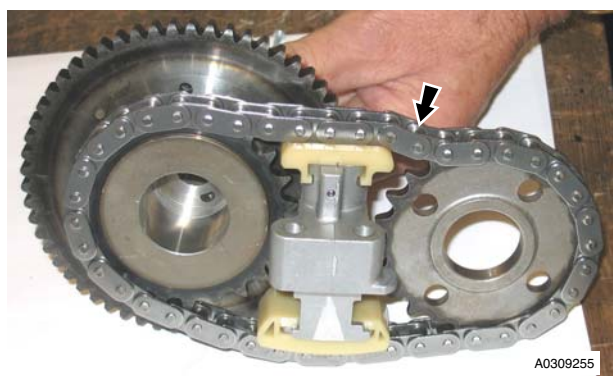

Figure 4
- Remove the secondary timing chain and tensioner from the sprockets (refer to Figure 4).